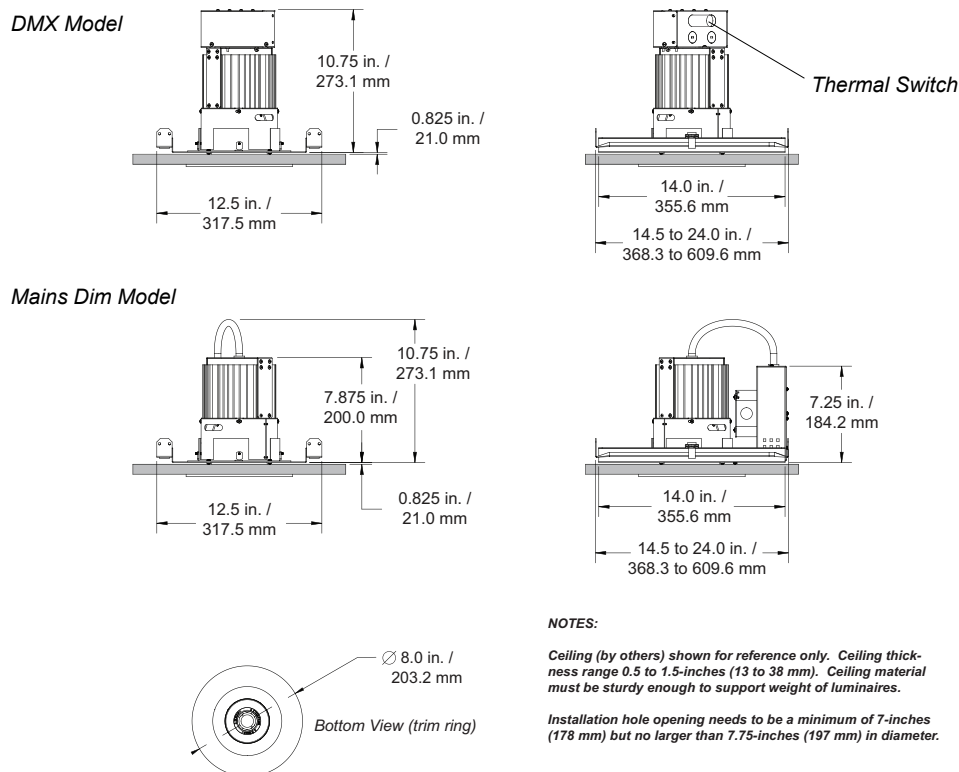

Figure 7: CDR70 New Construction Mount
- Step 2. Install CDR70 new construction mounting tray to joist work following the dimensions in **Figure 7**.